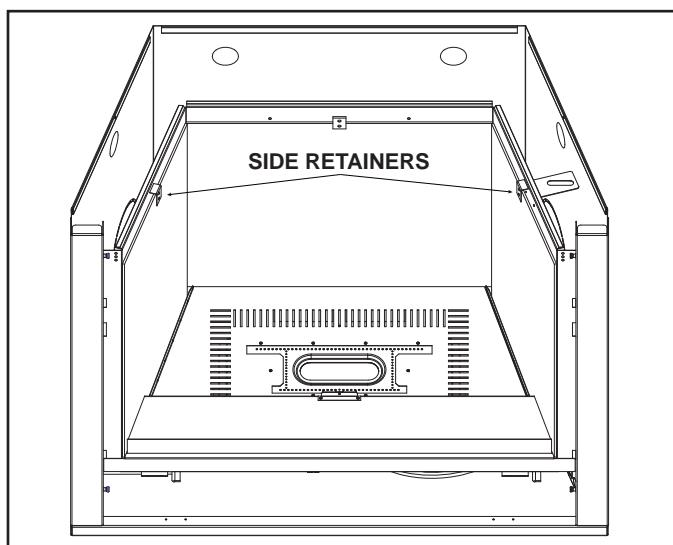

Figure 14.3 Install Side Retainers
3. Figure 14.3. shows the glass panels installed properly.